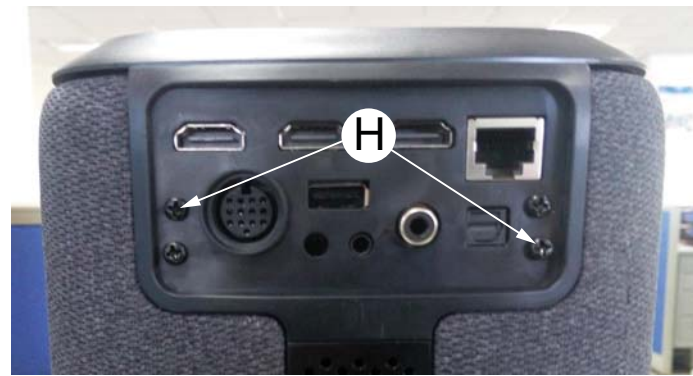

Figure 10
- 2) Loosen 2 screws "H" at the bottom cover as shown in figure 10.